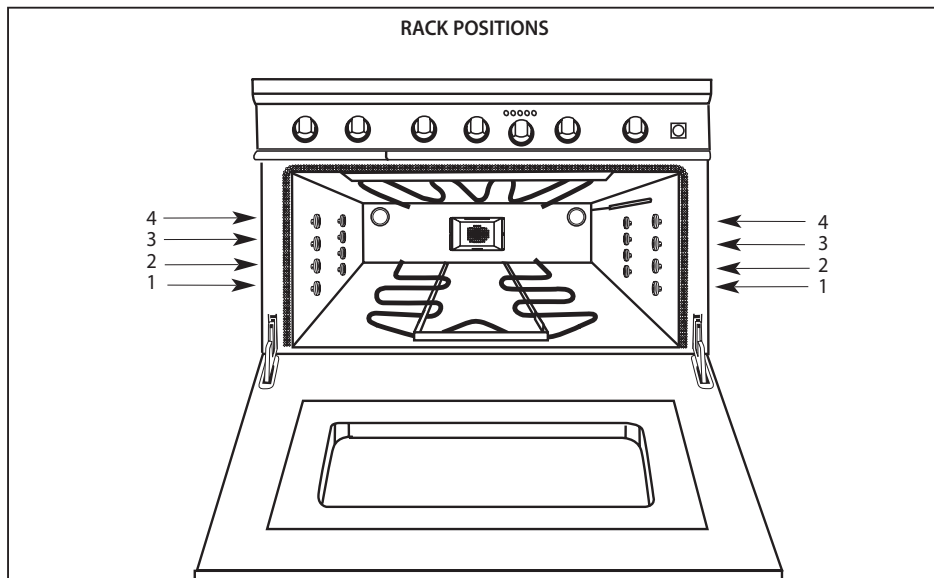

Fig. 01
2. Place the oven racks in the proper position before turning on the oven. For correct rack position check your recipe. The most frequently used position is number 2. The rack positions are numbered from the bottom as in the floors of a building. (Fig. 01)